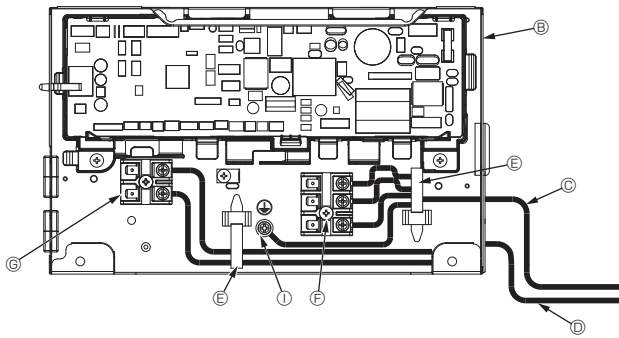
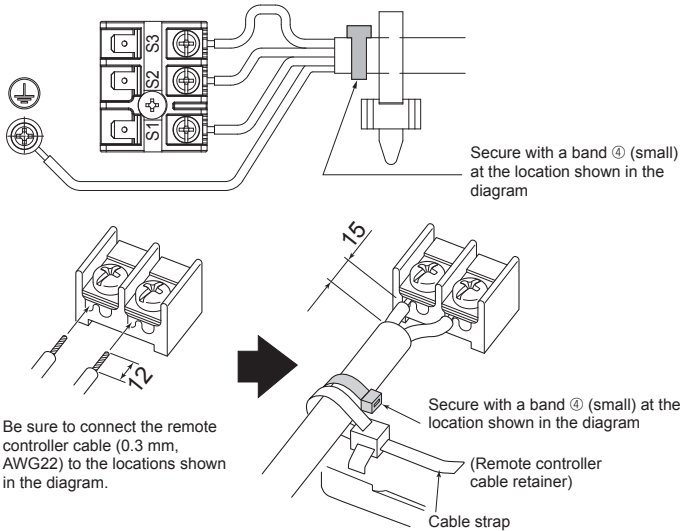

Fig. 7-2
Fig. 7-3
7.2. Indoor unit (Fig. 7-1) (Fig. 7-2) (Fig. 7-3)